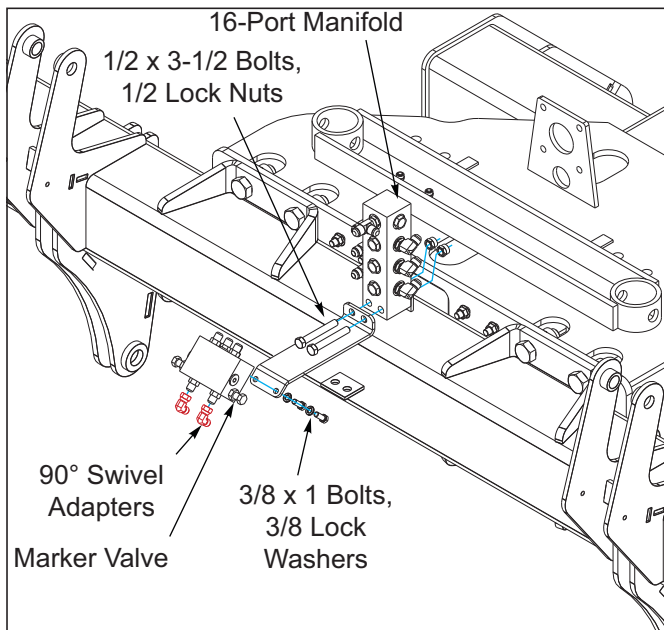

Figure 3-12: Marker Valve Installation
11. Remove the two 1/2 x 3-1/2 hex mounting bolts attaching the 16-port aluminum manifold on the top rear of the hitch **See Figure 3-12**. Using the same bolts, attach the valve mount bracket to the 16-port manifold.
12. Bolt the marker valve to the valve mount bracket with 3/8 x 1 bolts and lock washers **See Figure 3-12**. Install the valve with the A & B ports pointing downward, and the C & R ports pointing upward.